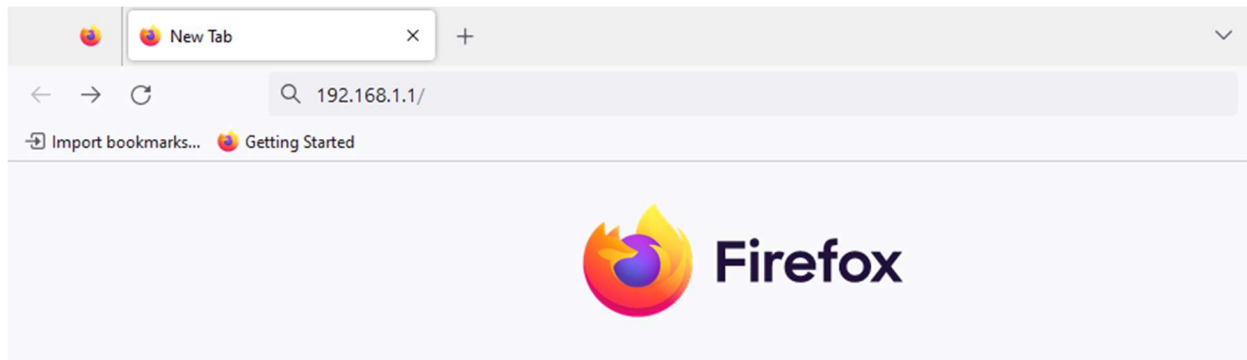

Figure 12: Internet Browser with IP address in Search Bar
- Let's check where the file is on the controller, so we know how to reference it. Open any internet browser and enter just the controllers IP address in the search bar as seen in Figure 12.
- On the left side of the screen in the Project Tree Window, navigate to Project > Logical POU's > Main > Main and double click it as highlighted in Figure 12 to get to the correct workspace.